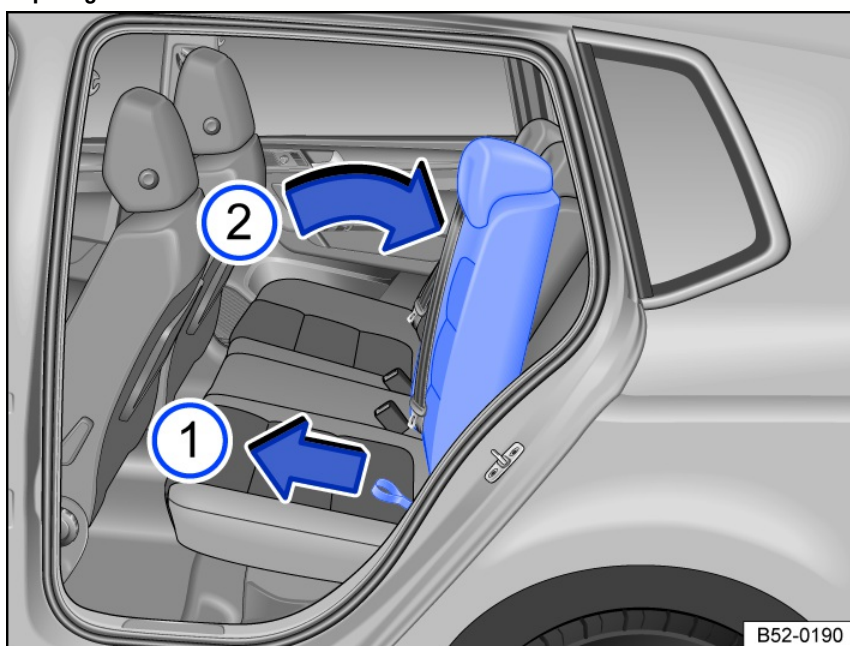

Fig. 78 Adjust the rear seat backrest.
- Press on the right or left rear seat backrest with your hand, while pulling its loop with the other hand *fig. 78* ①.
- Push the rear seat backrest against the spring force with your hand to move it to the desired position *fig. 78* ②.